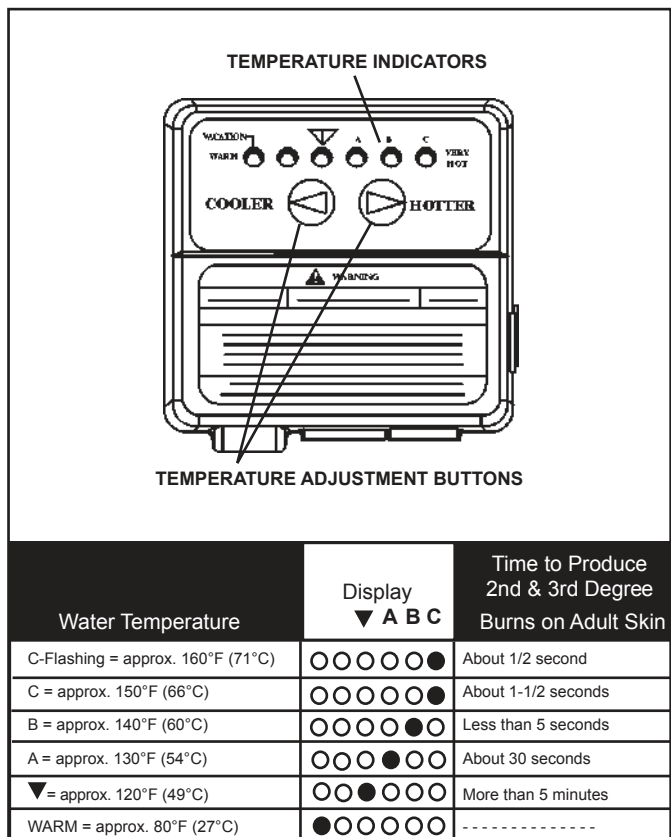

FIGURE 26.
HOT WATER CAN SCALD: Water heaters are intended to produce hot water. Water heated to a temperature which will satisfy space heating, clothes washing, dish washing, and other sanitizing needs can scald and permanently injure you upon contact. Some people are more likely to be permanently injured by hot water than others. These include the elderly, children, the infirm, or physically/mentally handicapped. If anyone using hot water from this heater fits into one of these groups or if there is a local code or state law requiring a certain temperature water at the hot water tap, then you must take special precautions. In addition to using the lowest possible temperature setting that satisfies your hot water needs, a means such as a mixing valve, should be used at the hot water taps used by these people or at the water heater. Mixing valves are available at plumbing supply or hardware stores, see Figure 2. Follow manufacturer's instructions for installation of the valves. Before changing the factory setting on the thermostat, in this manual, see Figure 26.
1. "Wake Up" the temperature indicators by holding down both "COOLER" and "HOTTER" temperature adjustment buttons at the same time for one second, see Figure 26. One or two of the temperature indicators will light up. These indicators will only remain on for 30 seconds if no further buttons are pressed. After 30 seconds the control will go back to "Sleep" mode.